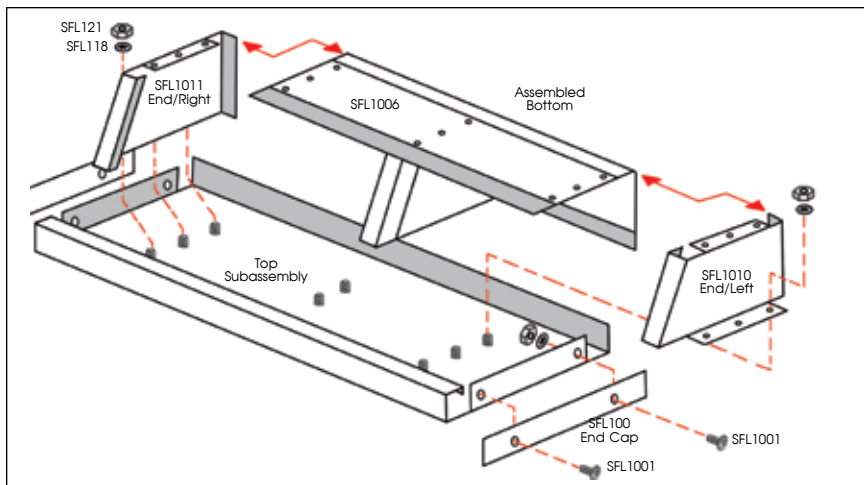

FIGURE 3
3. Lay the top upside down on the work surface. Attach the end caps with two 6-32 x 3/8" black pan head screws, #6 washers and 6-32 hex nuts. Slide the two end panels in place on the assembled bottom. Set this entire bottom assembly onto the studs protruding from the top. Secure with eight #6 lock washers and 6-32 hex nuts (Fig. 3).